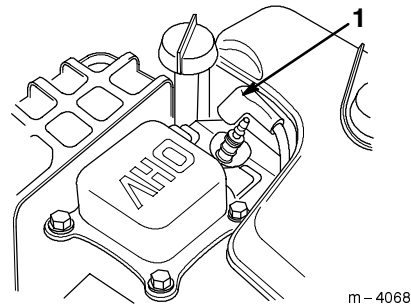

Figure 24
1. Disconnect the wire from the spark plug and make sure that the wire does not contact the plug (Fig. 24).
- Disconnect the wire from the spark plug and make sure that the wire does not contact the plug (Fig. 24).